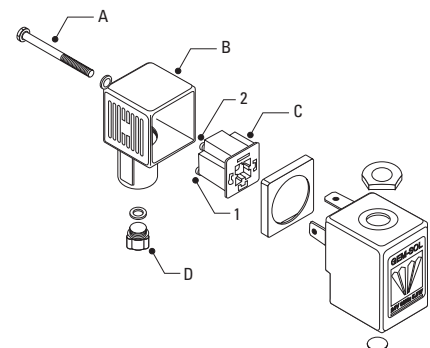

FIGURE 11 - Solenoid electrical wiring
- Loosen bolt (A). Pull hub assembly off. See Figure 11.
- Remove (D) and push terminal (C) out with a screwdriver through the access port.
- Connect wires to 1 and 2 of the terminal block (C). For DCL solenoids, connect negative (black) to 1. If no conduit is used, first put the wires through the 1/2" x 1/4" reducer.
- Reassemble the hub and seal on the access port (D).